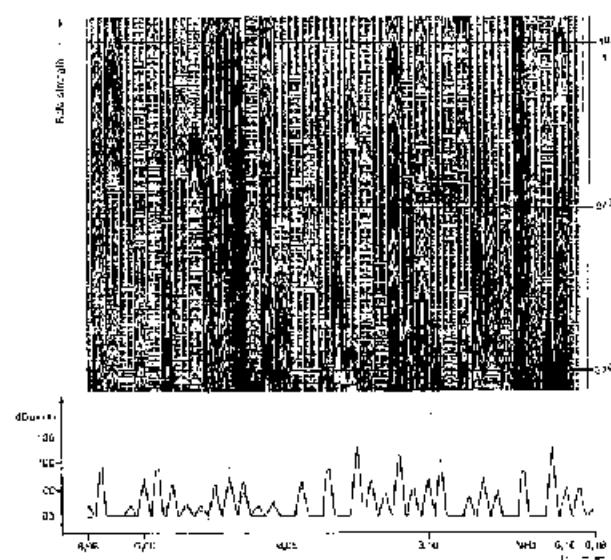

Fig. 7 Recording of 49-m band on Recorder ZSKT; XY representation (above) and XY representation (below).
- Graphic representation of field strength of selected frequency bands either in form of a line spectrum or as a continuous curve on an XY recorder plus output of measured field-strength level and, for example, of modulation depth on a printer (Figs 7 to 11).